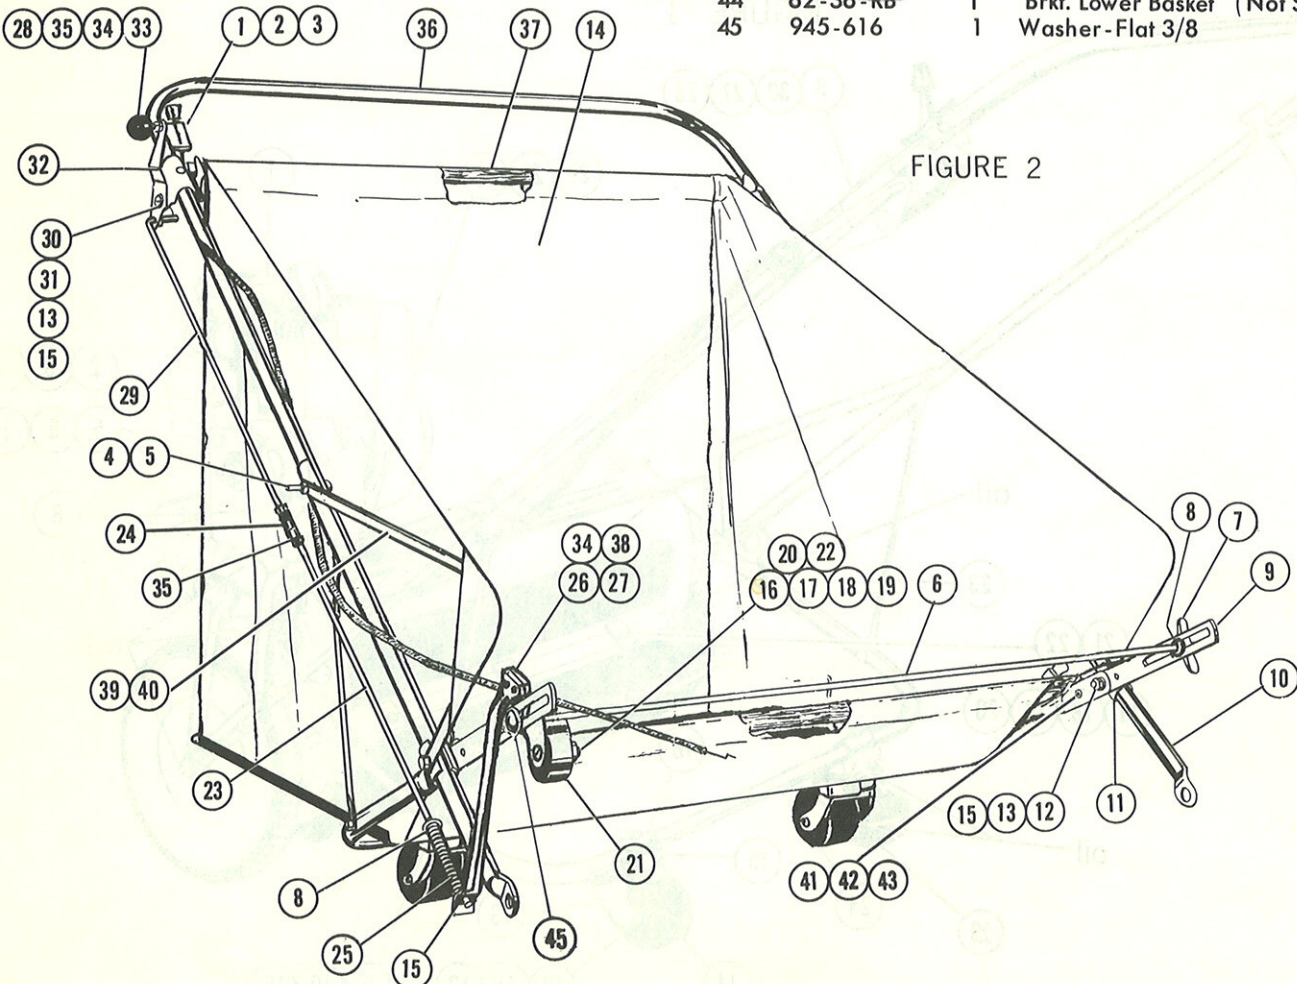

FIGURE 2
1. Remove sweeper from carton and set on ground in an upright position. Loosen large wing nut, Ref. No. 7, Fig. 2, and let engine tilt back. Bring upper handle, Ref. No. 36, Fig. 2, up over engine and back until it lies on the ground.
2. The bolts and nuts, Ref. Nos. 4 and 5, Fig. 2, should be assembled so that heads are on inside of handle. Bring upper handle, Ref. No. 36, Fig. 2, into its proper position so that it nests with the two lower handles, Ref. No. 10, Fig. 2, and tighten bolts and nuts securely.
3. Place one (1) Jam Nut, Ref. No. 35, Fig. 2, on both upper clutch rod, Ref. No. 29, Fig. 2, and lower clutch rod, Ref. No. 23, Fig. 2. Connect upper and lower clutch rods together with coupling nut, Ref. No. 24, Fig. 2, and tighten both jam nuts against coupling nut.
4. Ref. Fig. 2-Screw Ref. No. 35 jam nut down on Ref. No. 34 bolt, as far as possible then screw Ref. No. 33 plastic knob on Ref. No. 34 bolt as far as possible, then back up jam nut and tighten against plastic knob.
5. Place basket, Ref. No. 14, Fig. 2, into brackets.
**BRUSH HEIGHT ADJUSTMENT.** Loosen large wing nut, Ref. No. 7, Fig. 2. To raise brushes to extreme height, pull sweeping unit forward as far as slots in brush adjustment brackets, Ref. No. 9, Fig. 2, will permit. To lower brushes to lowest position, push sweeping unit backwards as far as slots will permit. Secure wing nut when desired brush adjustment is obtained.